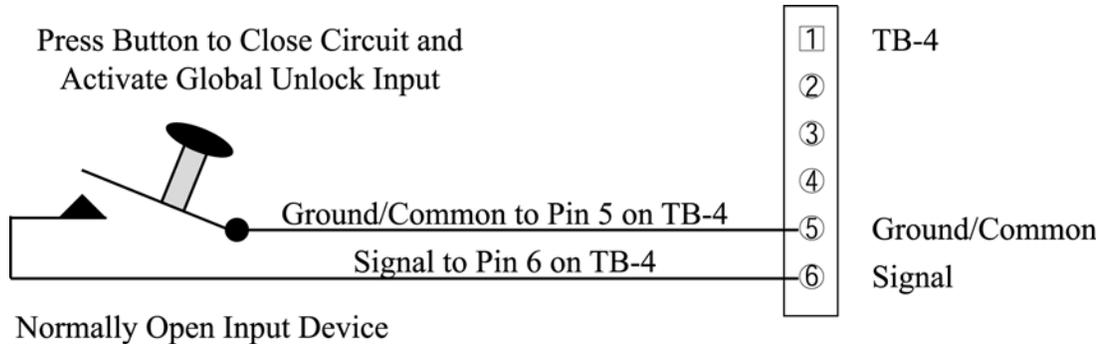
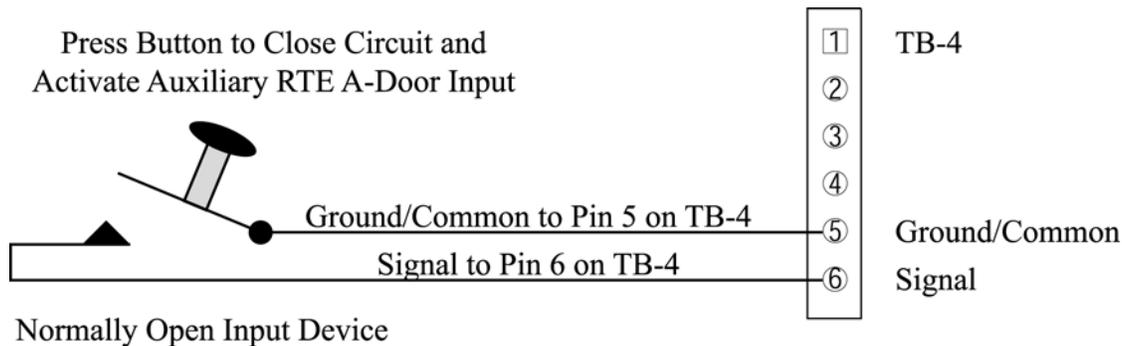

Figure 7: Global Unlock Input Connections
Figure 8: Auxiliary A-Door RTE Input Connections
- the master controller may be configured for either Global Unlock (see Figure 7) or Auxiliary A-door RTE (see Figure 8)
- the slave unit can only be configured for Auxiliary A-door RTE (see Figure 8)